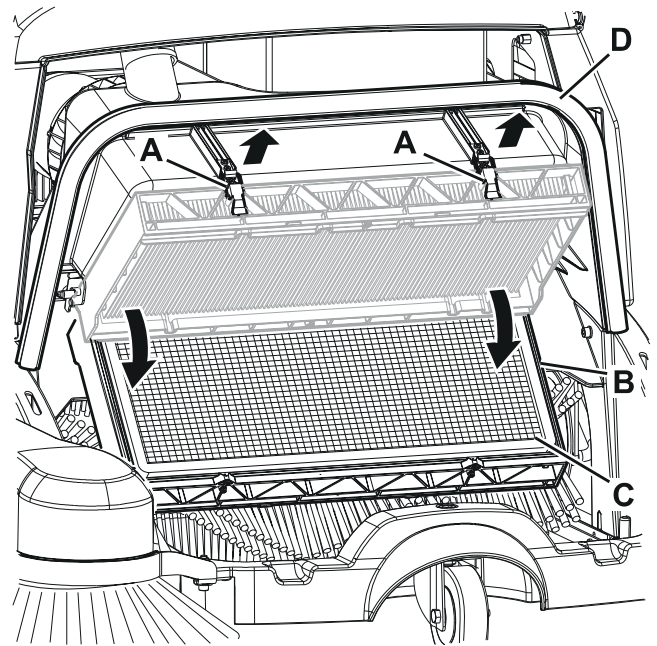
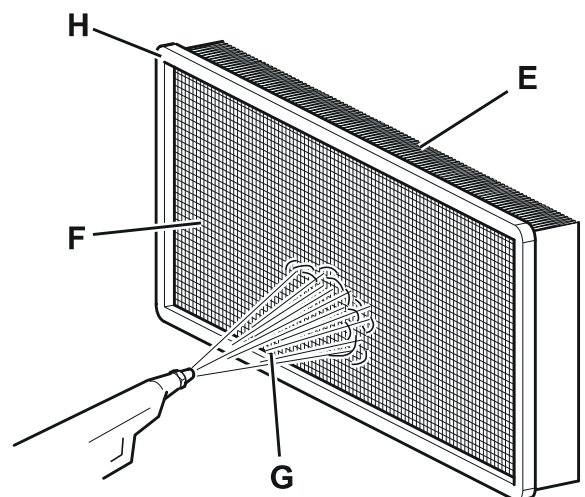

Figure 11
Figure 12
2. Turn the ignition key (2) to "0".
3. Remove the hopper (14).
4. Disengage the levers (A, Fig. 11) and turn the filter holder (B) downwards.
5. Remove the dust filter (C).
6. In an outdoor area, clean the dust filter by shaking it on a level and clean surface, tapping the side (E, Fig. 12) opposite to the wire gauze (F).
7. Complete the cleaning procedure by using compressed air (G) at maximum 6 Bar, blowing only from the side protected by the wire gauze (F).
8. Check the filter body for tears. Clean the gasket (H) along its perimeter and check it for integrity. If necessary, replace the filter.
9. If necessary, clean the filter compartment rubber gasket (D, Fig. 11) along its perimeter and check it for integrity. If necessary, replace it.